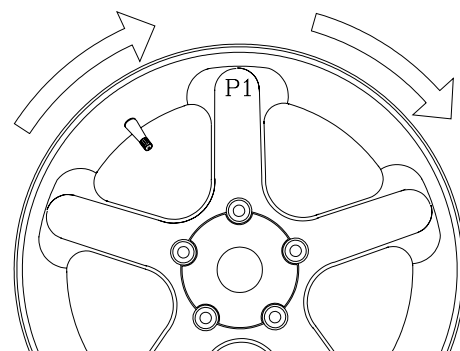

Figure 34
6. The display will read “**GET SPO 1**”. Locate the first spoke nearest to top dead center and rotate the wheel so that spoke is at top dead center. See Figure 34. Press **P** to store first position.